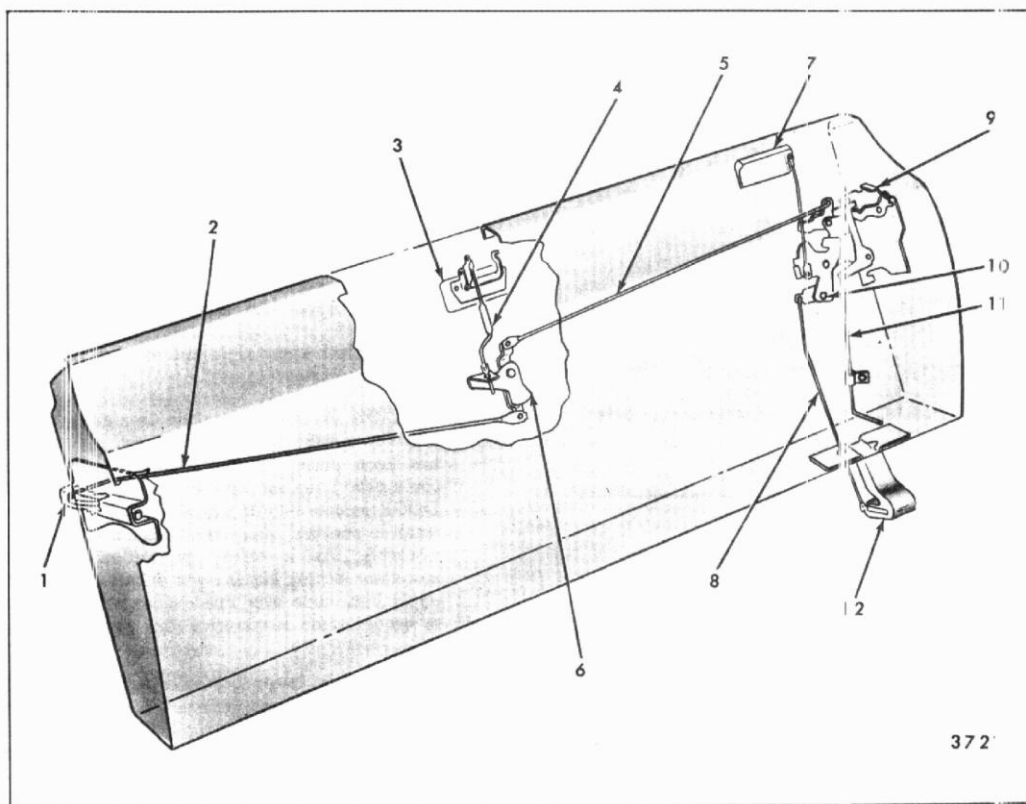

Fig. 9-21-Dual Acting Tail Gate Lock and Remote Control Linkage
4. Disengage clips securing right upper lock to lower lock connecting rod, remote control to upper lock connecting rod and tail gate window "block-out" rod (Figure 9-21).
**CAUTION:** DO NOT pull rearward on the right upper lock to lower lock connecting rod ("8", Figure 9-21) when disengaging right upper lock
3. Engage inside handle and cable assembly, lower lock to upper lock connecting rod, remote control to upper lock connecting rod and block-out rod with right upper lock assembly (Figure 9-21).
4. Remove lower lock cover and disengage upper to lower lock connecting rod (Fig. 9-21).
3. Disengage clip securing remote control assembly rod and remove lock assembly (Fig. 9-21).